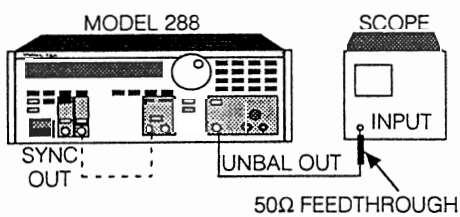

Figure 5-5. Adjust AM Setup
- Connect the test equipment as shown in figure 5-5.